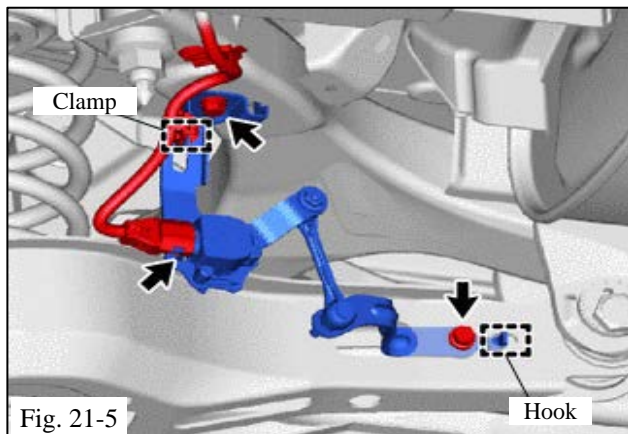

Fig. 21-5
- (f) If equipped with height control sensor: Install the rear height control sensor sub-assembly with the two bolts after engaging the hook (Fig. 21-5).